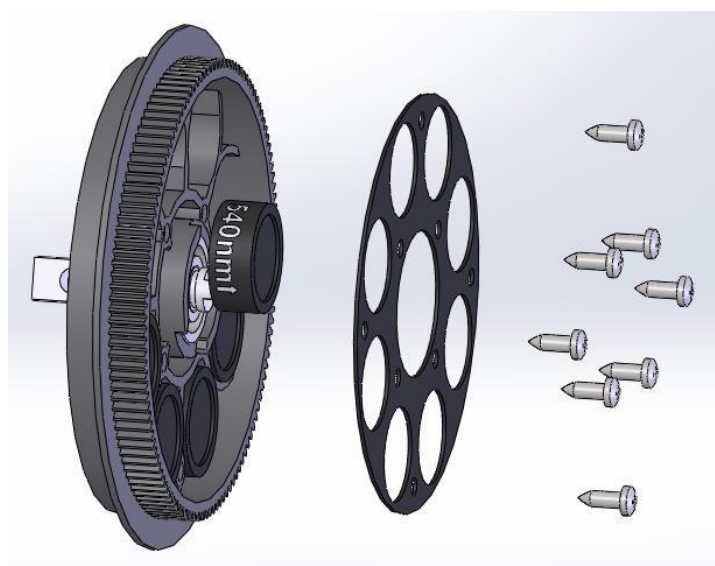

Fig. 56 Adding/Changing Optical Filter
- Remove the fixing plate by removing the screws, then place any new filters in open positions. Arrows on filters should be same as light incident direction (See Figure 56). Replace the fixing plate and screws.